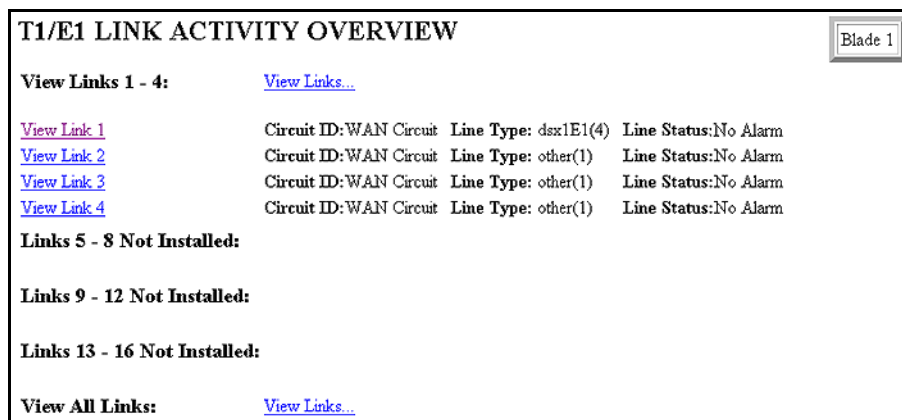

Figure 42. T1/E1 Link Activity Overview page
1. On the 2616RC Configuration Menu, click the T1/E1 Link hyperlink to open the T1/E1 LINK ACTIVITY OVERVIEW page (figure 42).